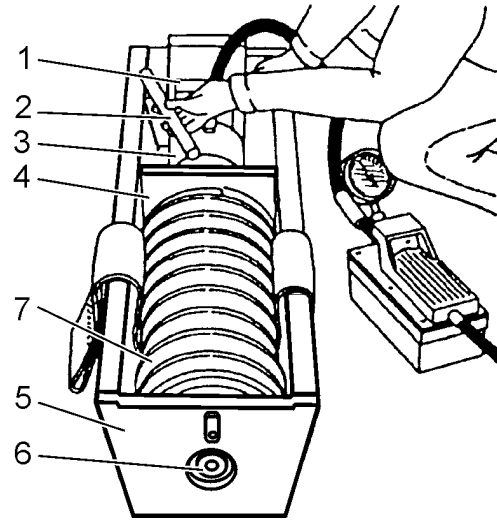

Fig. 14.52. Spring Disassembling
2. Position ram (3, Fig. 14.52) with suitable blocking (1) and raise ram to approximate center of spring, in to coffin (5). Place suitable blocking (1) behind ram (3). Compress spring (7) to relieve tension on bolt (6). Remove bolt. Position long spacers (2) at each corner of coffin (5). Slowly let off ram (3) until sliding plate (4) contacts spacers. Remove a piece of blocking (1).